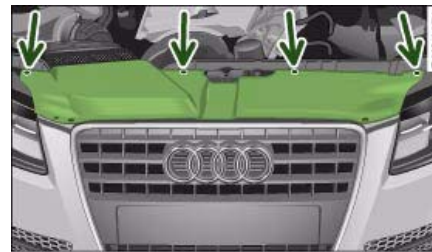

Fig. 258 Trim panel: Attachment points are marked by arrows
- Remove the screws ⇒ *page 278*, fig. 258 that secure the trim panel to the lock carrier and detach the trim panel.